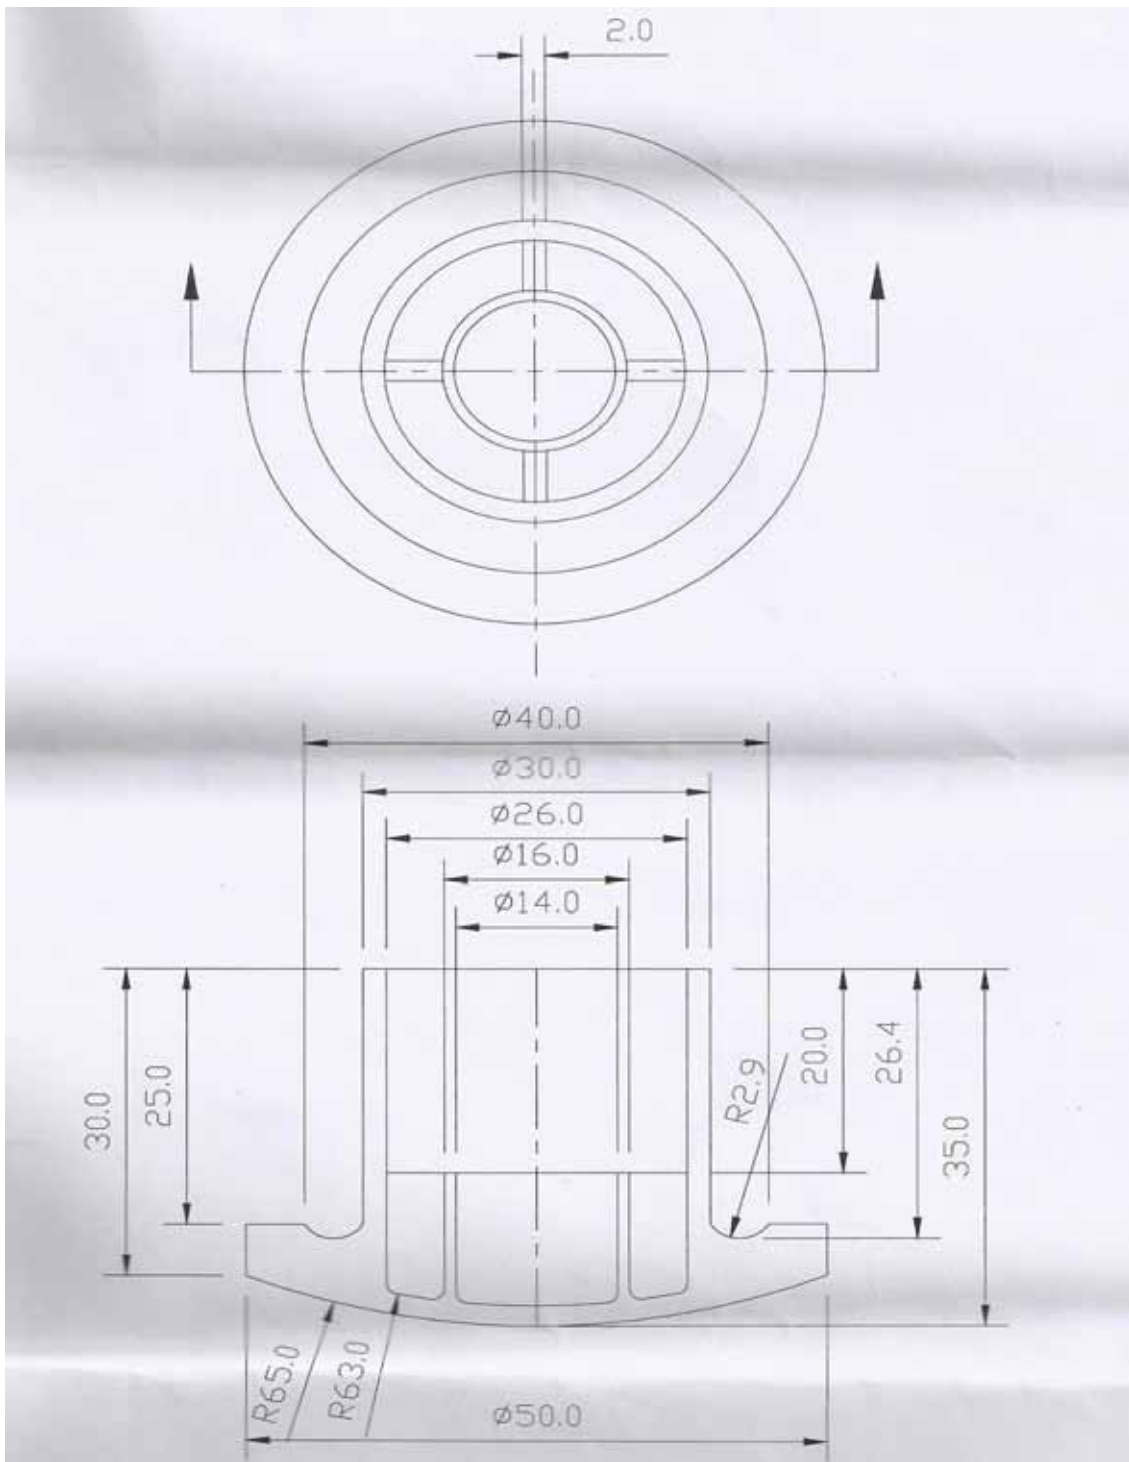

Fig. 2
- Q.2 Design a 2 cavity 3 plate mold for the component shown in figure 2. Draw at least 2 views with one sectional view to bring out the details of the feed, cooling and ejection system. Illustrate the relevant design calculations. (35)